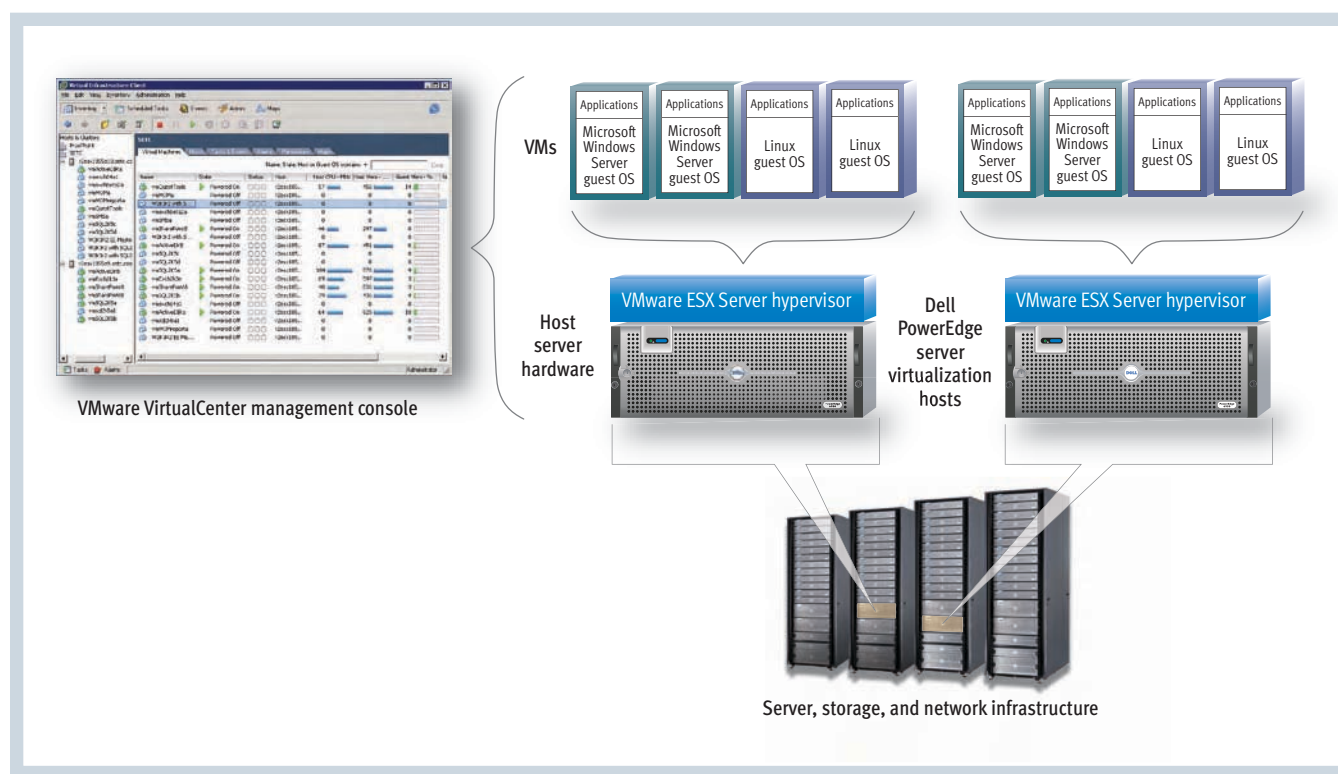

Figure 1. VMware Infrastructure 3 server virtualization software enables organizations to host and manage multiple virtual machines on each physical server
At the heart of virtualization technology are *hypervisor* architectures, that is, virtualization platforms or virtual machine (VM) monitors that allow multiple occurrences of operating systems—VMs—to run on the same physical host computer at the same time (see Figure 1). Hypervisors use a thin layer of code to help achieve fine-grained, dynamic resource sharing and are generally categorized into two distinct camps: